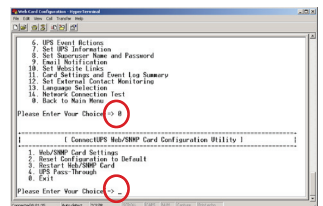

Figure 11. Save and Exit
7. Type **0** until you return to the Main Menu (see Figure 11).